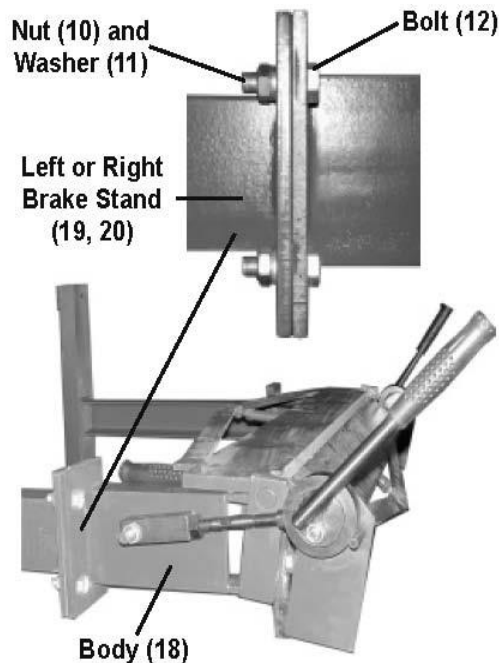

Figure 1
2. Place the Left Brake Stand (20) mounting pad against the left mounting foot of the Brake.
3. Assemble with Bolt (12), Washer (11), and Nut (10) as shown in Figure 1. Securely tighten.
4. Mount the Right Brake Stand (19) as described in Step 2.